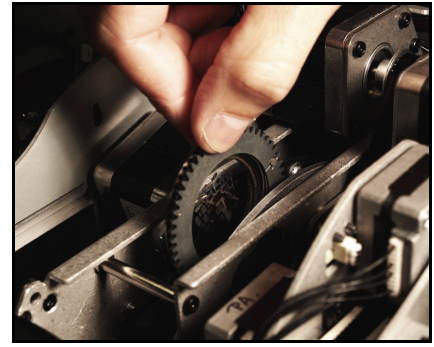

Figure 19: Gobo removal
5. See Figure 19. Grasp the goboholder by its teeth and pull it out of its clip to remove it from the wheel.